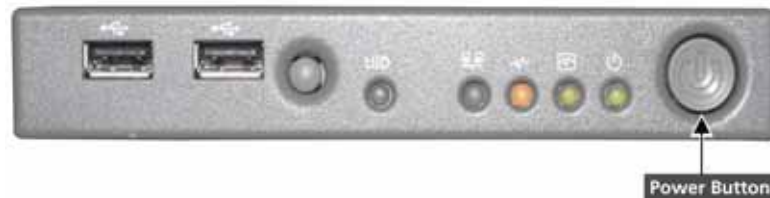

FIGURE 3-17 POWER BUTTON
1. Press the **Power** button on the front panel (**Figure 3-17**).